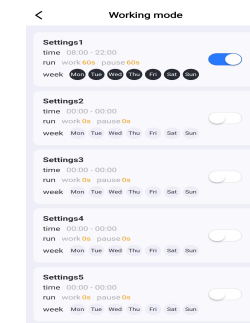

Figure 15
- (2). Select the mode to be set, and 5 working modes can be set (Figure 15).